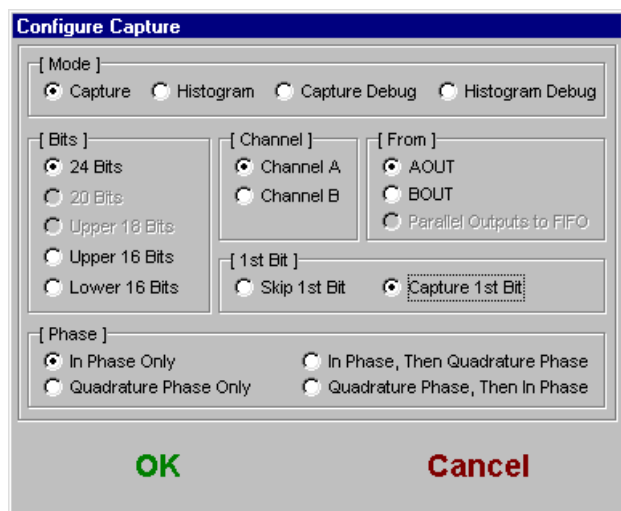

Figure 15 Screen configuration for step 15.
15. Choose **Capture** within the **Mode** box of the **Configure Capture** screen of the Data Capture Board software. Then choose **24 Bits** within the **Bits** box and **Capture 1st Bit** within the **1st Bit** box. Finally, choose **Channel A** from the **Channel** box and press **OK**. The screen should appear as in Figure 15.